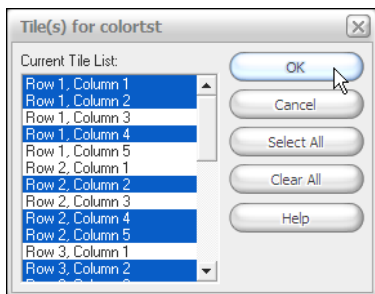

Figure 11—Tiles
3. Highlight the tiles you want to print (see Figure 11).